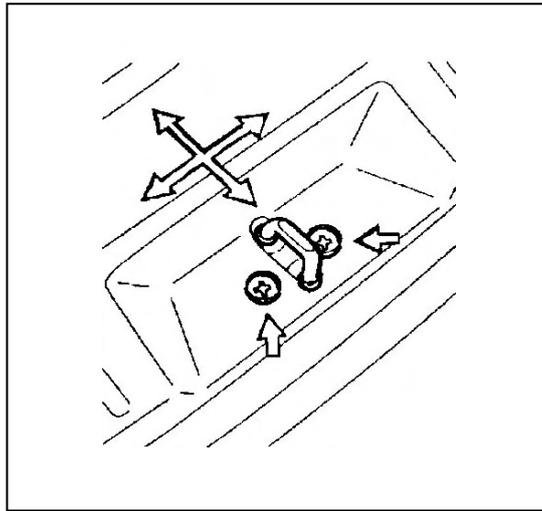

Fig.19-25
- (1) align the striker and latch by moving the striker up and down or outside and inside, see Fig. 19-25. Be sure that the deviation between the center of striker and the latch is within  $\pm 1.5\text{mm}$ , see Fig. 19-25.
(2) If the gap between the door and body is inconsistent, to adjust the position of the hinge and striker, see fig 19-25.